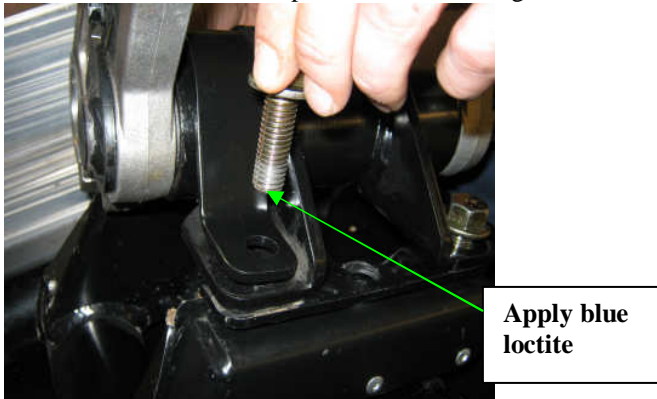

Figure 18. Install reinforcement strap
11. Install the reinforcement strap with 1/2" 1-3/4" length bolt as shown in figure 18.